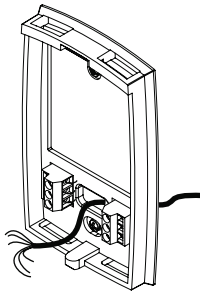

Figure 2
- 5 Pass the wires through the large opening located at the bottom center of the wallplate as per Figure 2.